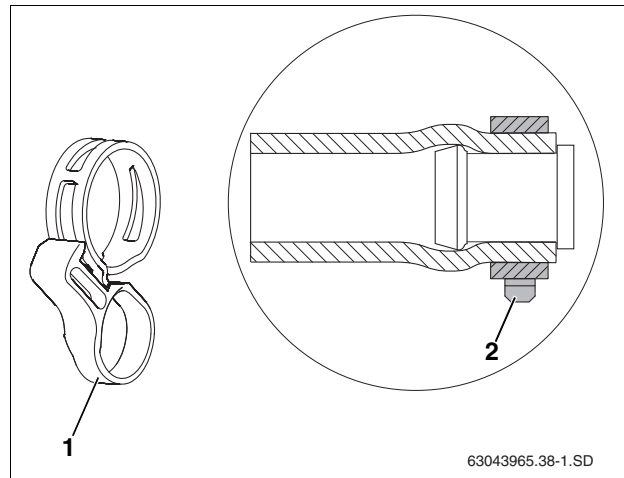

Fig. 39 Hose clamp with locking ring
- ▶ The hose clamp (Fig. 39, [2]) must be positioned correctly before pulling the handle (Fig. 39, [1]). Subsequent loosening requires using pliers and may cause a leak.